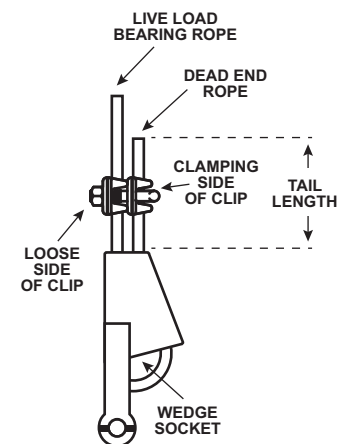

FIGURE 2
- Tighten nuts evenly. Alternate tightening each nut until reaching the required torque specified. See Figure 2.
2. Put second clip close to the thimble without binding it (Fig. 2). Install nuts firmly but do not yet tighten to proper torque.